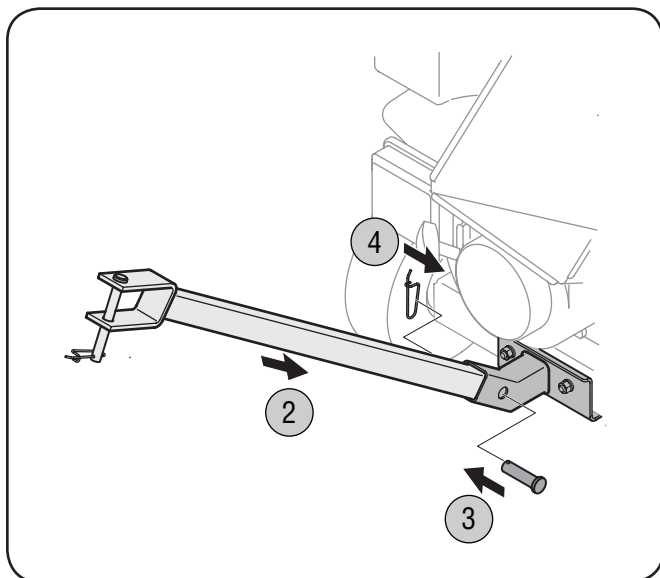

Figure 3-4
4. Fasten with the spring pin to secure. See Fig. 3-4.